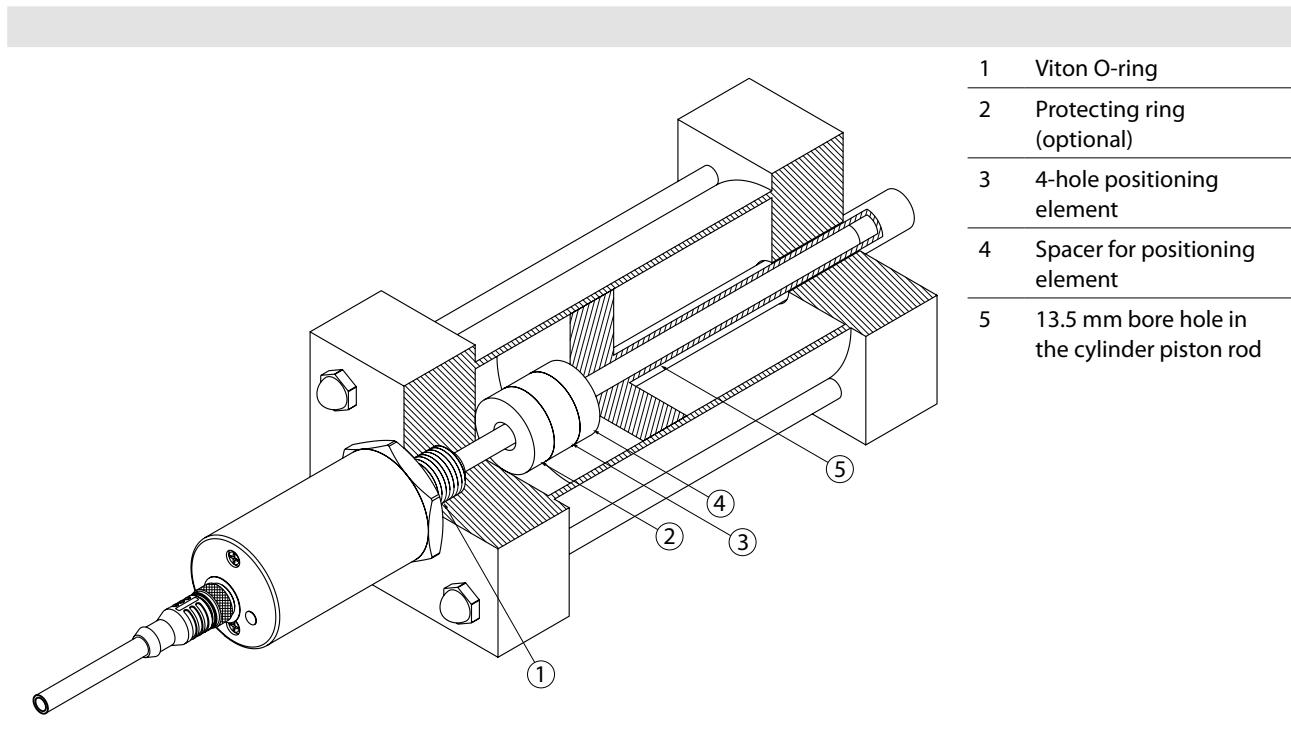

Fig. 7: Mounting the device in a hydraulic cylinder
- ▶ Recommended for sensors with measuring probe lengths ≥ 1500 mm: use protecting ring, e.g. made of polymer (see Fig. 7, no. 2). The protecting ring prevents mechanical wear of positioning elements by the pressure pipe when the piston is fully extended.